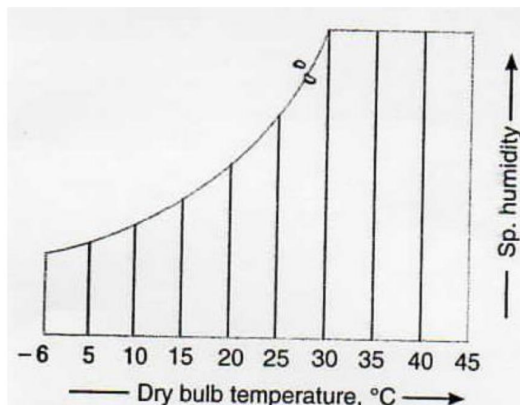

Fig.7. Dry bulb temperature lines.
1. **Dry bulb temperature lines.** The dry bulb temperature lines are vertical i.e. parallel to the ordinate and uniformly spaced as shown in Fig. 7. Generally the temperature range of these lines on psychrometric chart is from  $-6^{\circ}\text{C}$  to  $45^{\circ}\text{C}$ . The dry bulb temperature lines are drawn with difference of every  $5^{\circ}\text{C}$  and up to the saturation curve as shown in the figure. The values of dry bulb temperatures are also shown on the saturation curve.